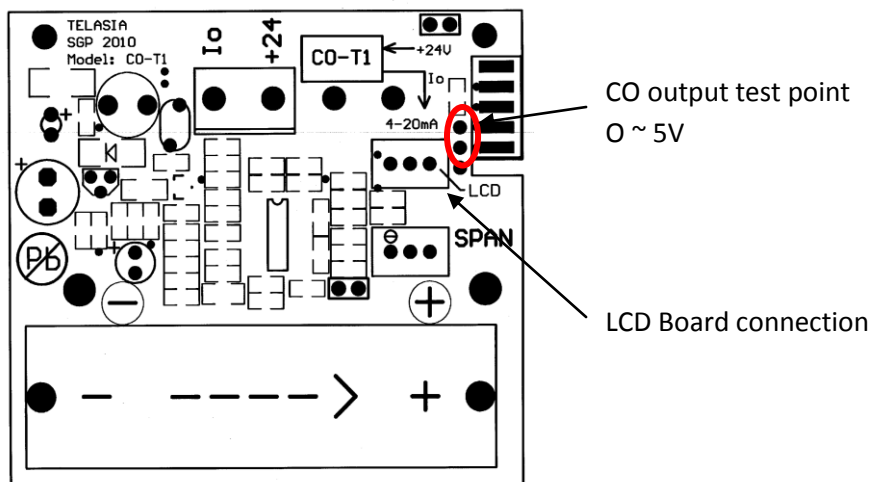

Fig 7. Circuit Board Layout
- (i) LCD monitor board connected to CO-T1 circuit board (Figure 7). The sensor reading is then displayed (in ppm) on the LCD board.
- (ii) If LCD monitor board is not available, one could still monitor the 0-5V output using a digital voltmeter (DVM) from the test points indicated in Figure 7 OR monitor the current output of the transmitter.